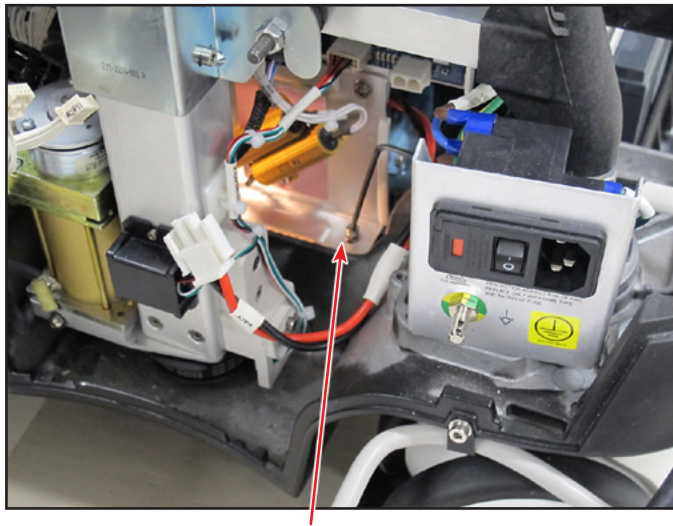

Figure 3-56 Cable Load Bracket Screw Location
- 45.15 Remove two 3 mm hex screws securing Cable Load bracket to chassis. See Figure 3-56 for screw location.